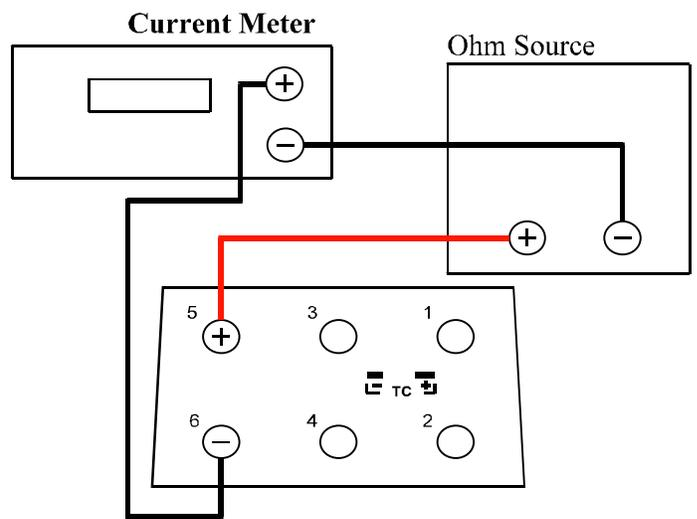

FIGURE 4
2. Lo Calibration: Connect terminals 5 and 6 from the 830 in series with a Current Meter and an Ohm Source (See figure 4). Set the Ohm Source so the current meter reads 0.00mA. Press *STORE/RESET* and then *READ/POWER TRANSMITTER*.